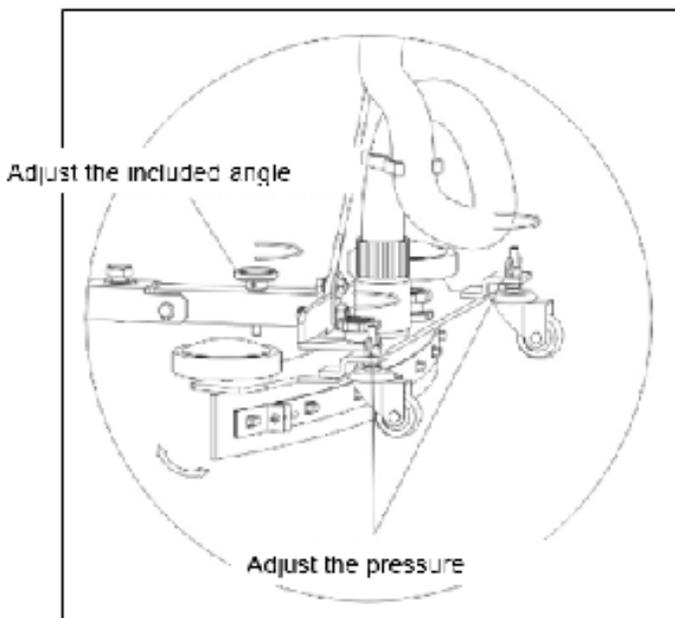

Figure 8
8. With the regulating handle of squeegee, increase or decrease the angle between the squeegee and the floor. The suction of dirt would be efficient with a suitable included angle.(see figure8)
- screw the casters up a bit, to give the squeegee the best working efficiency (see figure 8).
- C. Check whether the angle between the scraper and ground is proper; if not, you can adjust the angle by regulating the hand wheel. (Seen in figure8)